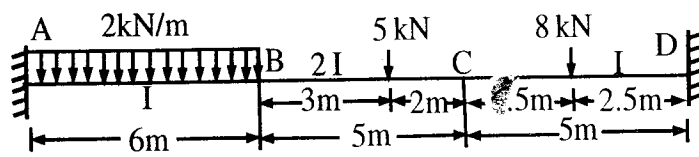

Fig. 3
- Q.7 Using moment distribution method, calculate the moments at supports of the beam ABCD as shown in Fig. 3